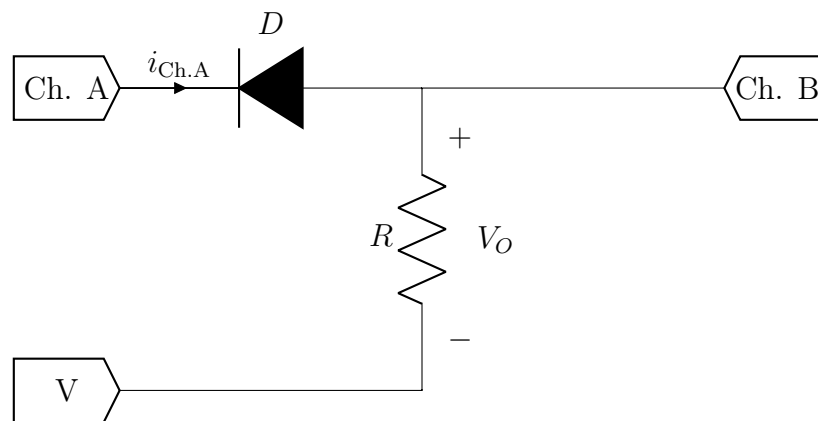

Figure 4: PN-Junction Diode Half-Wave Rectifier
1. Build a half-wave diode rectifier circuit using a Si 1N4148 diode, as shown in Figure 4. Use a 5 V_{pp} sinusoidal input waveform from the M1K ADALM1000 by setting channel A to "Source Voltage, Measure Current" and producing a sine wave with parameters of 5V amplitude and 100Hz frequency. To create a waveform from -2.5V to 2.5V, a fixed 2.5V supply from the M1K will be used as demonstrated in Figure 4. Use a resistor value of 1 kΩ at the output. Connect Channel A GND to Channel B GND.